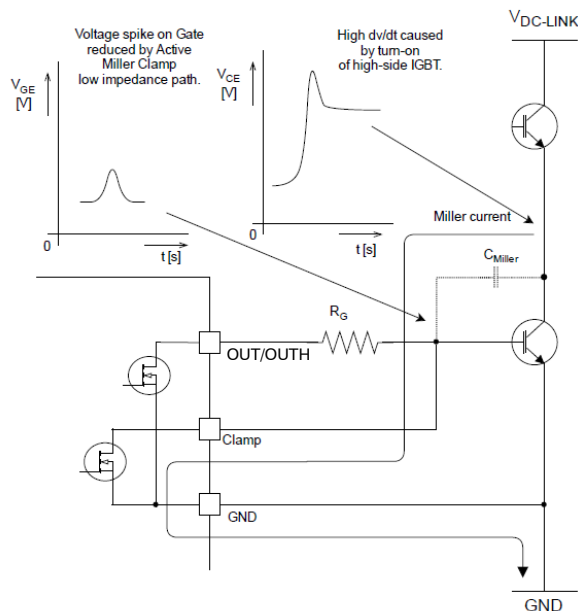

Figure 25. Current Path with Miller Clamp Protection
- In Unipolar power supply the driver is typically supplied with a positive voltage of 15 V at V_{DD2} . Dynamic turn on through the internal IGBT input capacitance could be prevented by Active Miller Clamp function (NCV57080A). CLAMP output should be directly connected to IGBT gate (Figure 25)